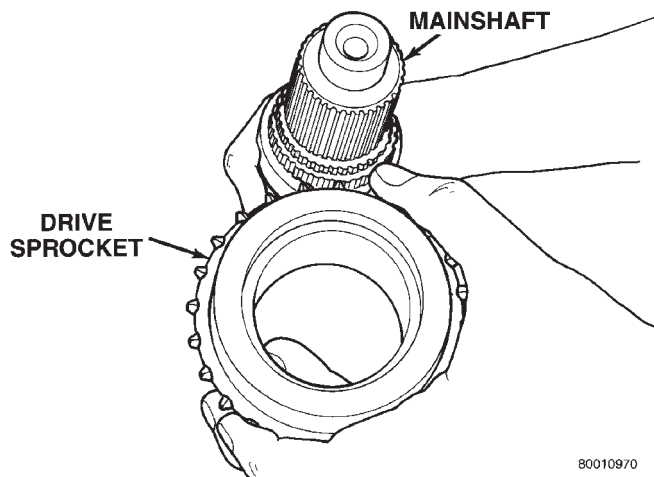

Fig. 25 Drive Sprocket Removal
(4) Slide drive sprocket off mainshaft (Fig. 25).